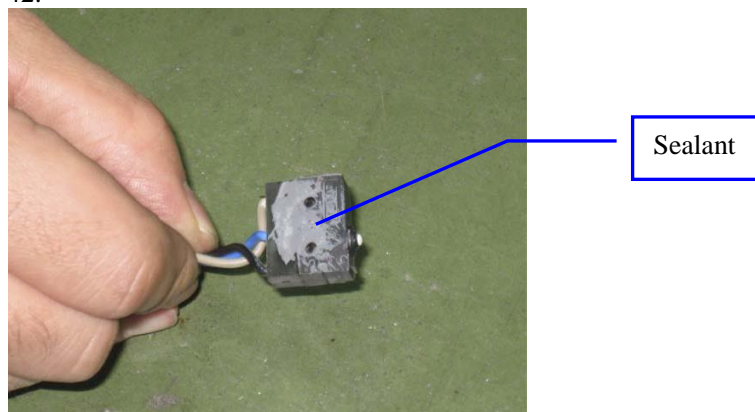

Figure 42: Apply sealant to brake switch
2. Apply a thin layer of sealant (Loctite 480 or equivalent) on the brake switch mating surface. See Figure 42.